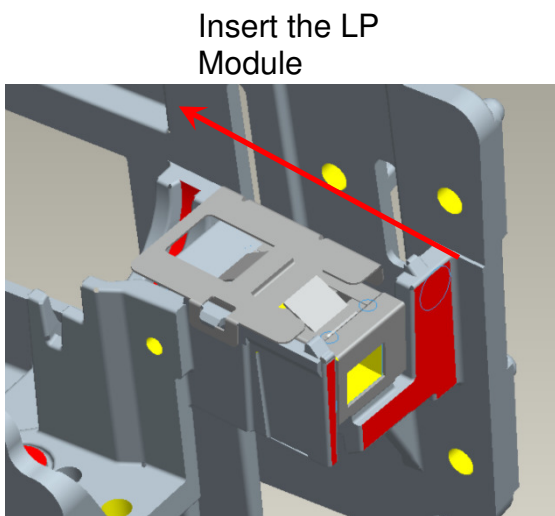

Fig. 1-12
- (3) Press CLIP of BKT LP first and push it into the hole (Fig. 1-12).
- (1) Pre-assemble 2 adjusting screws. Criteria as Fig.1-12
- (2) Alignment Sequence:
- b. Refer to Fig. 1-12
- (3) For Overfill Re-adjustment:
- a. Those 2 Adjustment Screws must be released closely to the “Pre-assembly” positions first (Fig. 1-12).